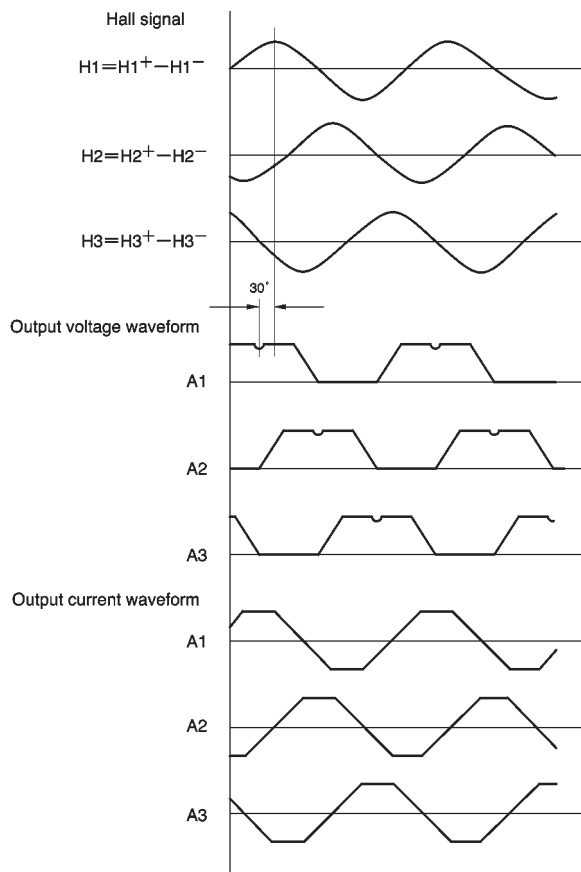

Fig. 1
(1) The 3-phase Hall signal is amplified in the hall amplifiers and sent to the matrix section, where the signal is further amplified and combined. After the signal is converted to a current in the amplitude control circuit, the current is supplied to the output driver, which then provides a motor drive current. The phases of the Hall input signal, output voltage, and output current are shown in Fig. 1.